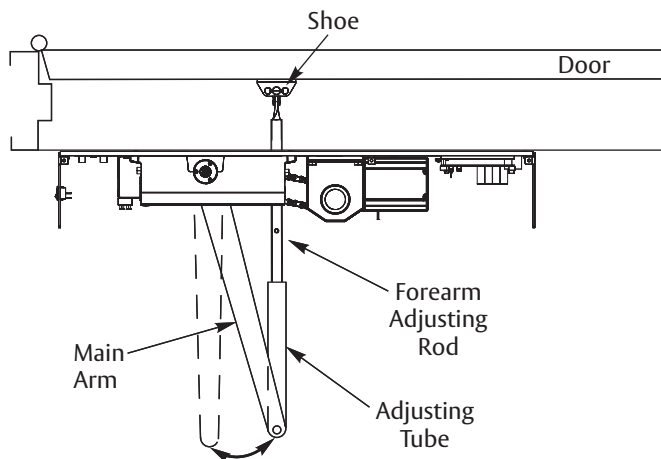

Figure 9 View from ceiling looking downward
- Remove 1/4-20 hex head screw on forearm adjusting rod. (Figure 9)
- Insert adjusting rod into adjusting tube. (Figure 9)